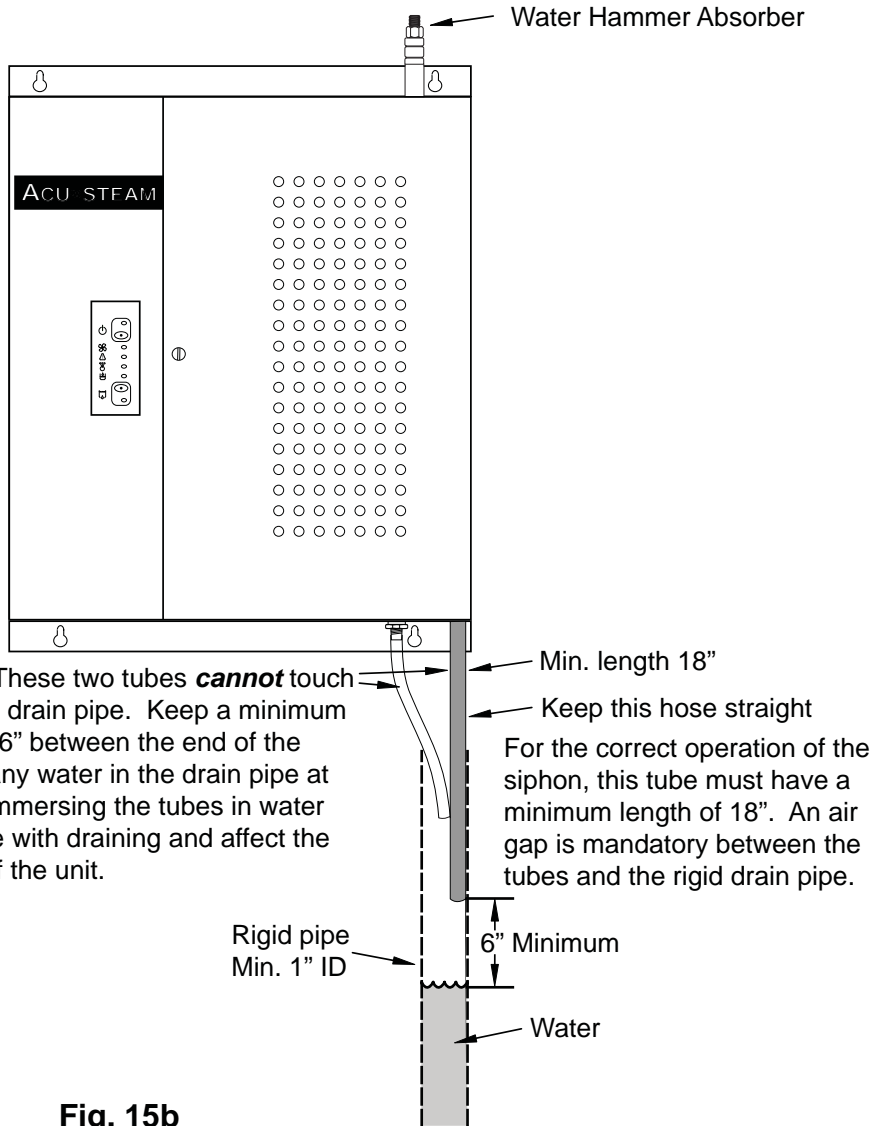

Fig. 15b
15.5 A rigid drain pipe has to be installed under the unit and connected to the main house drain. We recommend a 1" minimum I.D. tube or standard 1-1/2" I.D. ABS plumbing tube to do the installation. Please also install a siphon (P-trap) with a drain cap, if required. The two flexible tubes (main drain and overflow) coming from the humidifier and which will be inserted in the rigid pipe, require a minimum free vertical length of 18" below the cabinet. It is very important to leave an air gap between the rigid pipe and the tubes to allow the siphon to function properly. The flexible tubes cannot touch any water contained in the drain pipe. Please see Fig. 15b.